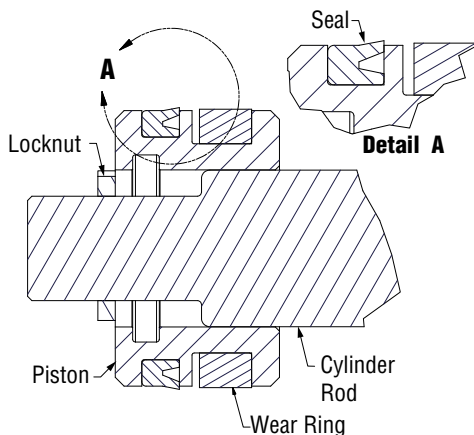

Figure 5-9, Piston Seal
2. Note the direction of the seal on the piston. Improper installation will result in poor performance. The cupped side or O-ring side of the seal should be facing the gland cap. (Figure 5-9)